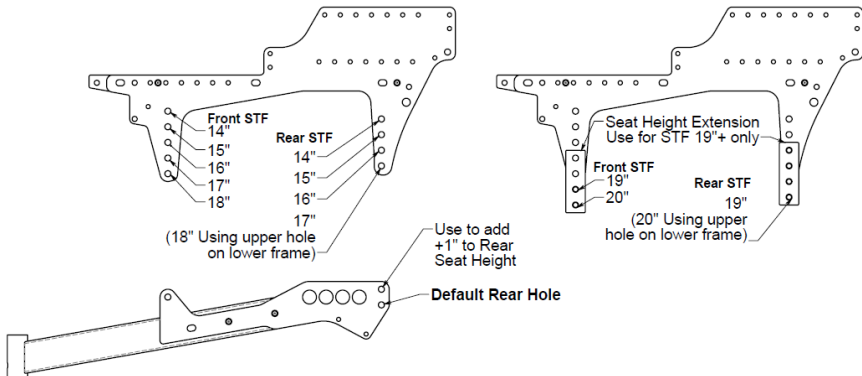

Figure 12.25: Recommended chair position
2. Move the upper frame to the desired position shown in Figure 12.25.